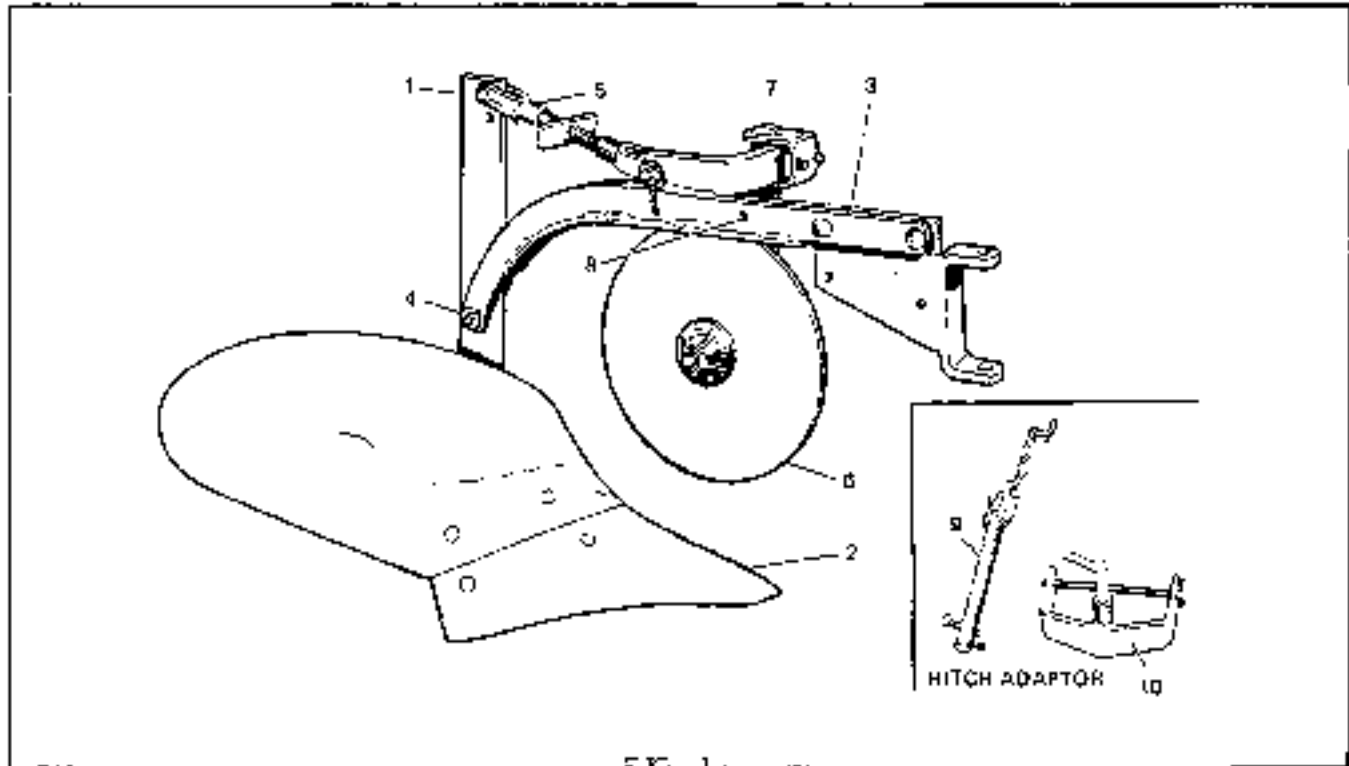

FIG. 1
**ASSEMBLY AND ADJUSTMENT (Fig. 1)
1. Remove the gang bolts (1) from the frames and assemble the discs (2) into right hand left hand gangs as shown in Fig. 1. Insert the gang bolts through the discs and wood bearings and